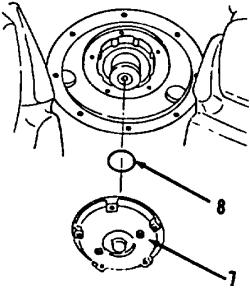

Figure 5-119.
5. Remove retainer (7, Figure 5-119).
7. Remove and discard preformed packing (8, Figure 5-119).